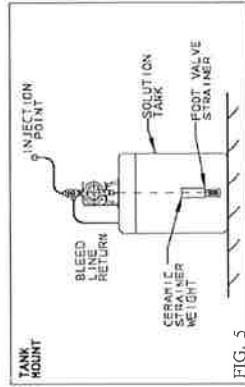

FIG. 5
- To prevent clogging or check valve malfunction always install a strainer assembly to the end of the suction tubing (Figure 5). This foot valve/strainer assembly should always be installed 1 to 2 inches (2-5 cm) above the bottom of the chemical tank. This will help prevent clogging the strainer with any solids that may settle on the tank bottom. The chemical tank and foot valve/strainer should be cleaned regularly, to ensure continuous trouble free operation. If the chemical being pumped regularly precipitates out of solution or does not dissolve easily or completely (e.g. calcium hydroxide), a mixer should be used in the chemical tank. These are readily available in many motor configurations and mounting. To obtain, contact supplier.